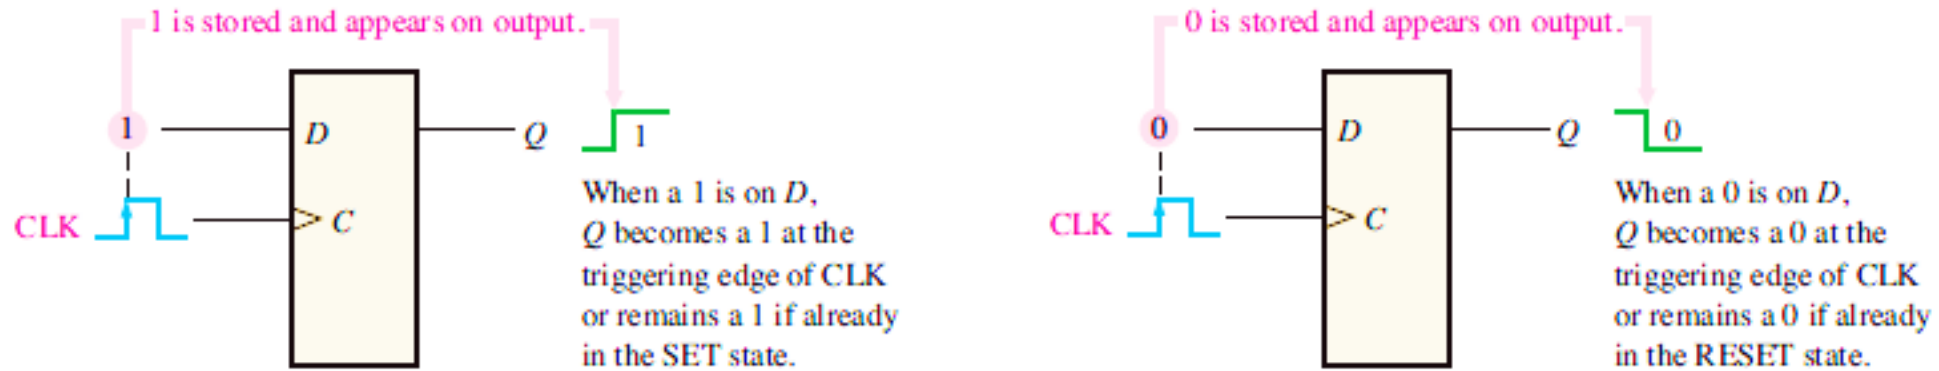

FIGURE 1 The flip-flop as a storage element.
- Figure 1 illustrates the concept of storing a 1 or a 0 in a D flip-flop. A 1 is applied to the data input as shown, and a clock pulse is applied that stores the 1 by **setting the flip-flop**.